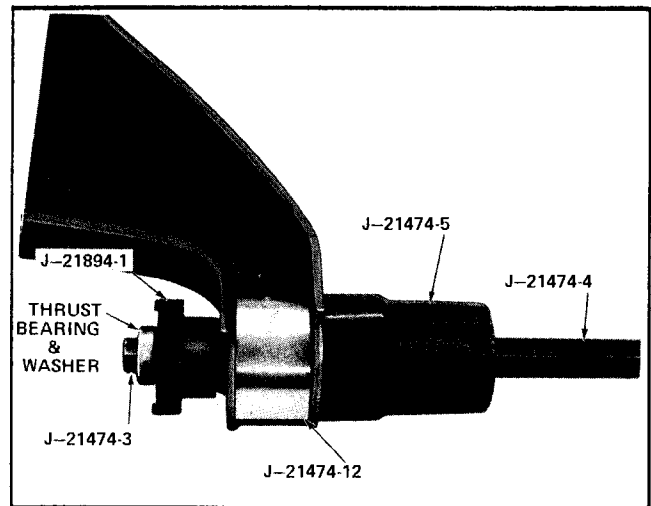

Fig. 3-26 Removing Lower Control Arm Rear Bushing
2. Remove bushing from control arm by arranging tools as shown in Fig. 3-26.